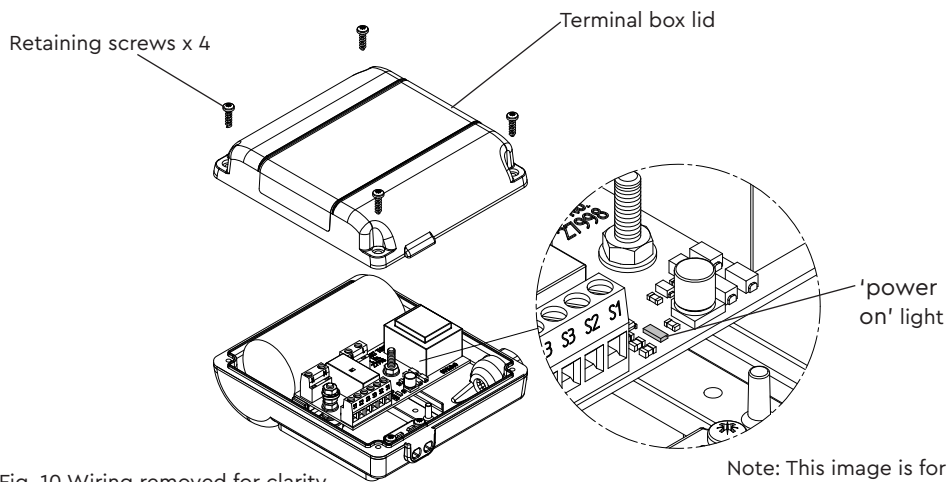

Fig. 10 Wiring removed for clarity
- Remove the four screws retaining the terminal box lid (Fig. 10).